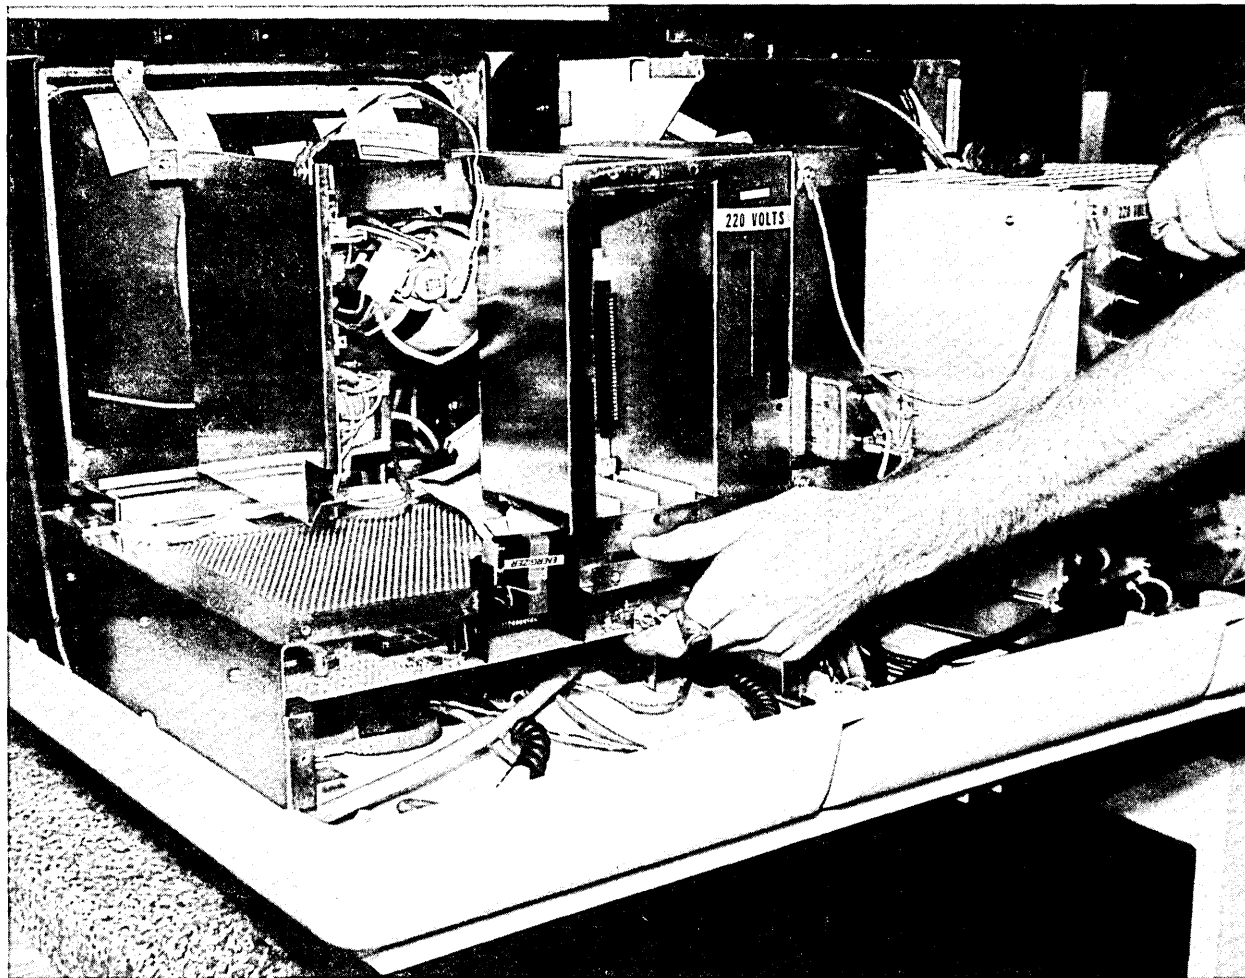

Figure 5-25. Lifting/Pulling the Monitor for Tilt-Up
9. See figure 5-25. Pull the entire monitor chassis back so the CRT bezel clears the frame around it. The chassis may now be tilted up.